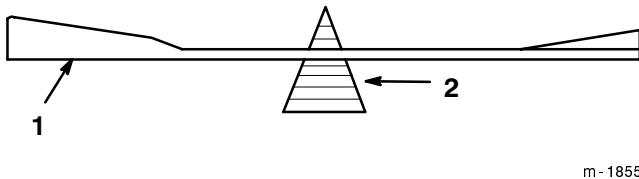

Figure 37
2. Check the balance of the blade by putting it on a blade balancer (Fig. 37). If the blade stays in a horizontal position, the blade is balanced and can be used. If the